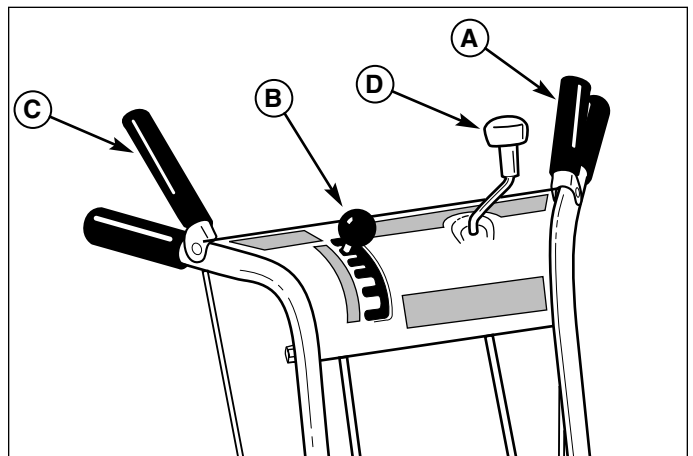
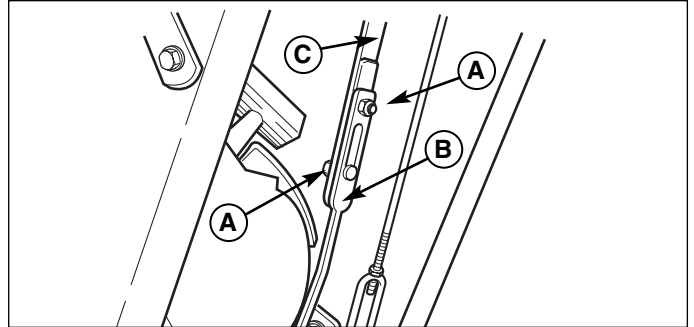

Figure 18. Snowthrower Controls
Figure 21. Drive Linkage
2. Check the traction drive control (A, Figure 18). Snowthrower motion should stop when the control is released.
3. Check the auger control (C). Auger movement should stop when the control is released.
4. Check the chute direction control (D) for proper operation. The discharge chute should rotate freely in both directions.
6. Check the speed selector (B) for smooth operation. The control must move freely into each speed position gate and remain in position when released.
1. Loosen the two nuts (A, Figure 21).
2. Place the shift lever (B, Figure 18) in 5th gear. The lower speed selector rod (B, Figure 21) will properly locate itself due to an integral spring.
3. Grasp upper speed selector rod (C, Figure 21), and pull up, then tighten the two nuts (A) while maintaining the position of the upper rod. Make sure the shoulders of the carriage bolts are in the slots.